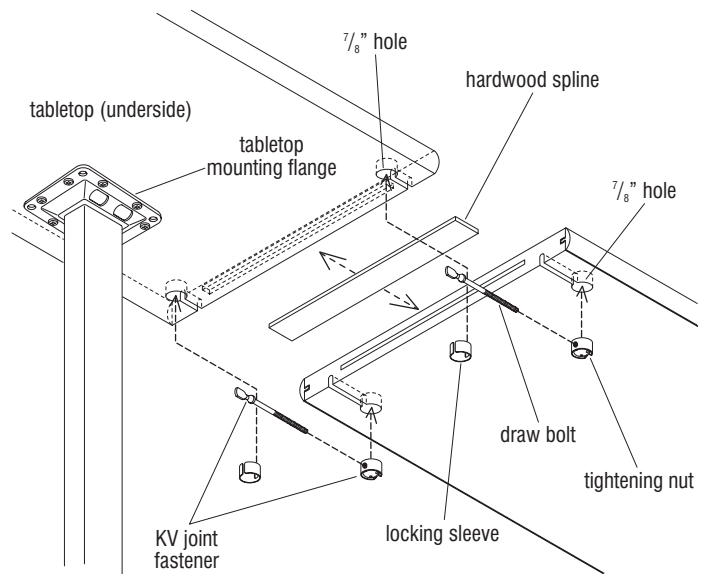

Figure 3
8. Tabletops are to be joined together from underneath with two KV joint fasteners per pair of tabletops (Figure 3). First join both tabletops together, aligning the hardwood spline (installed in one tabletop at the factory). Check to make sure hardwood spline fits snug in both tabletops. If it does not, lightly sand down the spline so it does fit. If this is not done, it may be difficult to get a tight fit on the tabletop seam. The spline joint and tabletop seams are to be glued using the adhesive supplied with the KV fasteners. Do not use a wood glue for seam gluing as the working time for that adhesive is too short. Then, thread each draw bolt a few turns into each tightening nut and press each pair up into a  $\frac{7}{8}$ " hole and slot. The flat end of each draw bolt will be visible in the  $\frac{7}{8}$ " holes of the tabletop being joined. Insert locking sleeves into the  $\frac{7}{8}$ " holes so that the slotted sleeve engages the rounded collar on the bolt (Figure 3). Tighten the nut with a tightening tool or nail set. Check the top side of the joint for proper alignment. The joint should be smooth and level with no gaps. Adjust as necessary to achieve a "seamless" look. Once the seam is glued, use the C-clamps to clamp either end of the seam.